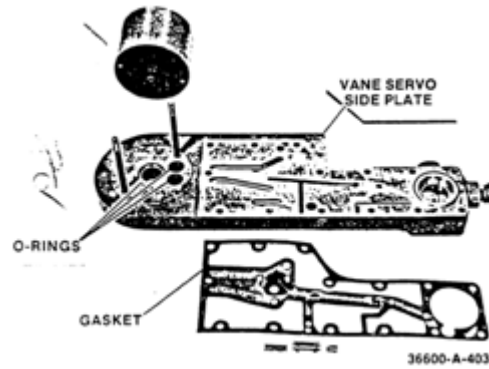

Figure 5-43. Side Plate
13. Install three O-rings, shown in side plate, Figure 5-43.